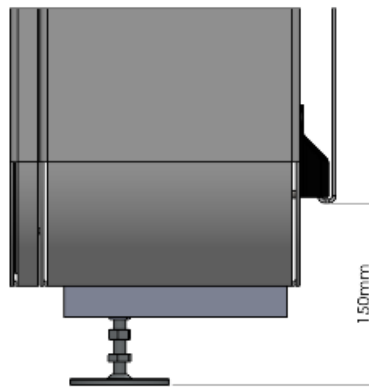

Figure 7 - Installation height of wall bracket.
8. Position the bracket on the wall ensuring that the bottom of the bracket is 150mm from the floor (Figure 7). Mark the desired mounting hole locations and install the mounting fasteners as per Table 2.